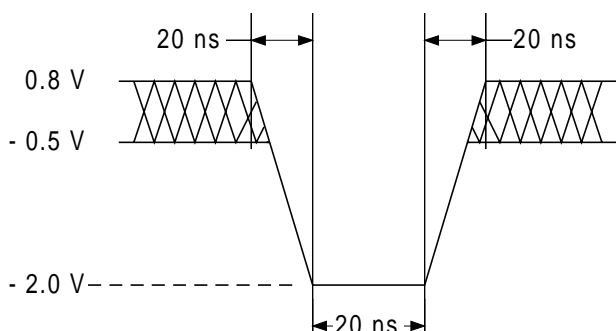
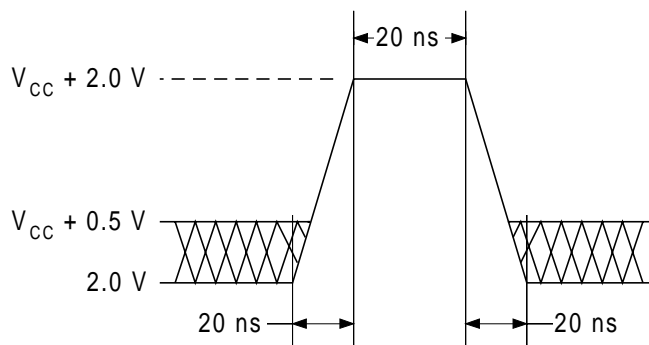

Figure 9. Maximum Undershoot Waveform
Figure 10. Maximum Overshoot Waveform
- Minimum DC voltage on input or I/O pins is -0.5 V. During voltage transitions, input or I/O pins may undershoot V_{SS} to -2.0V for periods of up to 20 ns. See Figure 9. Maximum DC voltage on input or I/O pins is $V_{CC} + 0.5$ V. During voltage transitions, input or I/O pins may overshoot to $V_{CC} + 2.0$ V for periods up to 20 ns. See Figure 10.
- Minimum DC input voltage on pins WP#/ACC, A[9], OE#, and RESET# is -0.5 V. During voltage transitions, A[9], OE# and RESET# may undershoot V_{SS} to -2.0 V for periods of up to 20 ns. See Figure 9. Maximum DC input voltage on pins A[9], OE#, and RESET# is +12.5 V which may overshoot to 14.0 V for periods up to 20 ns. Maximum DC input voltage on pin WP#/ACC is +9.5 V which may overshoot to 12.0 V for periods up to 20 ns.